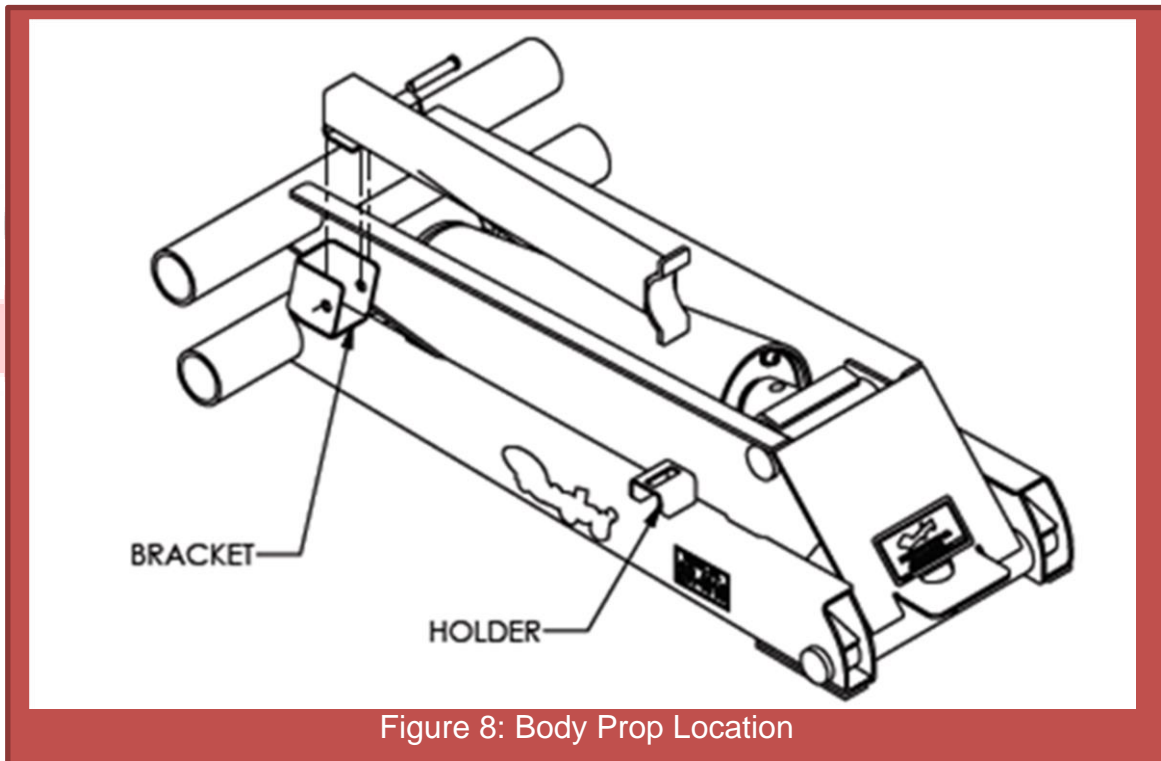

Figure 8: Body Prop Location
1. Insert the body prop into the body prop bracket (**Figure 8**).